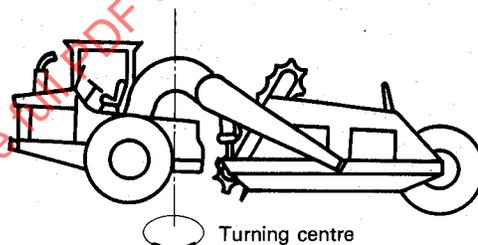

Figure 4 – Articulated steer
5.1.2.2 Articulated steer (figure 4)